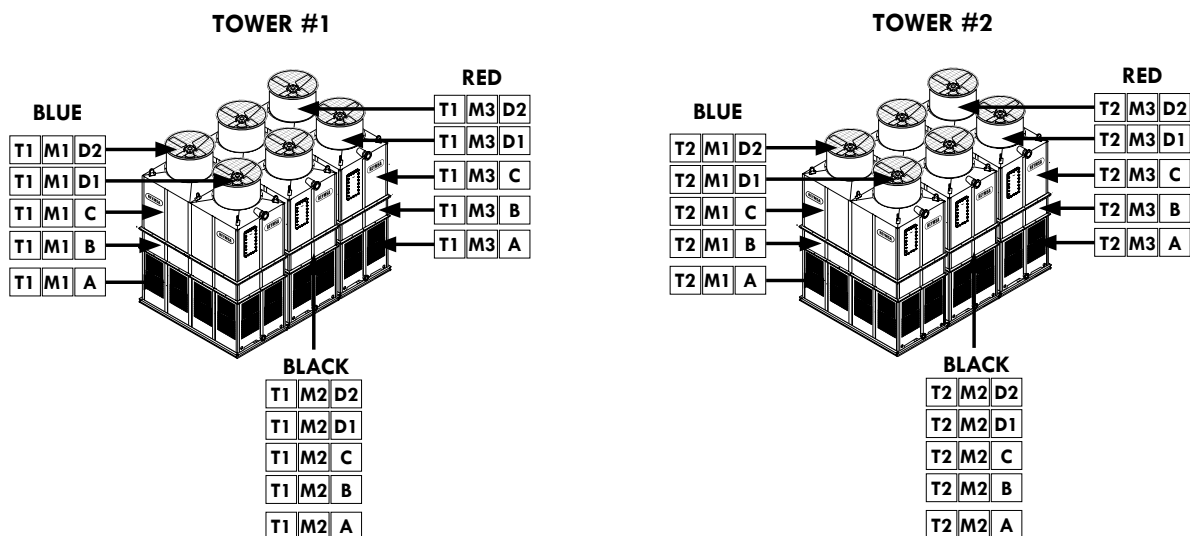

Figure AP-12: Color code for multiple tower assembly.
- E. Modular Towers, each module will be identified with the letter “M” followed by the module number, and a letter that corresponds to the vertical position of that section, for example: **M1A, M1B, M1C, M2A, M2B**, etc. See Figure AP-12